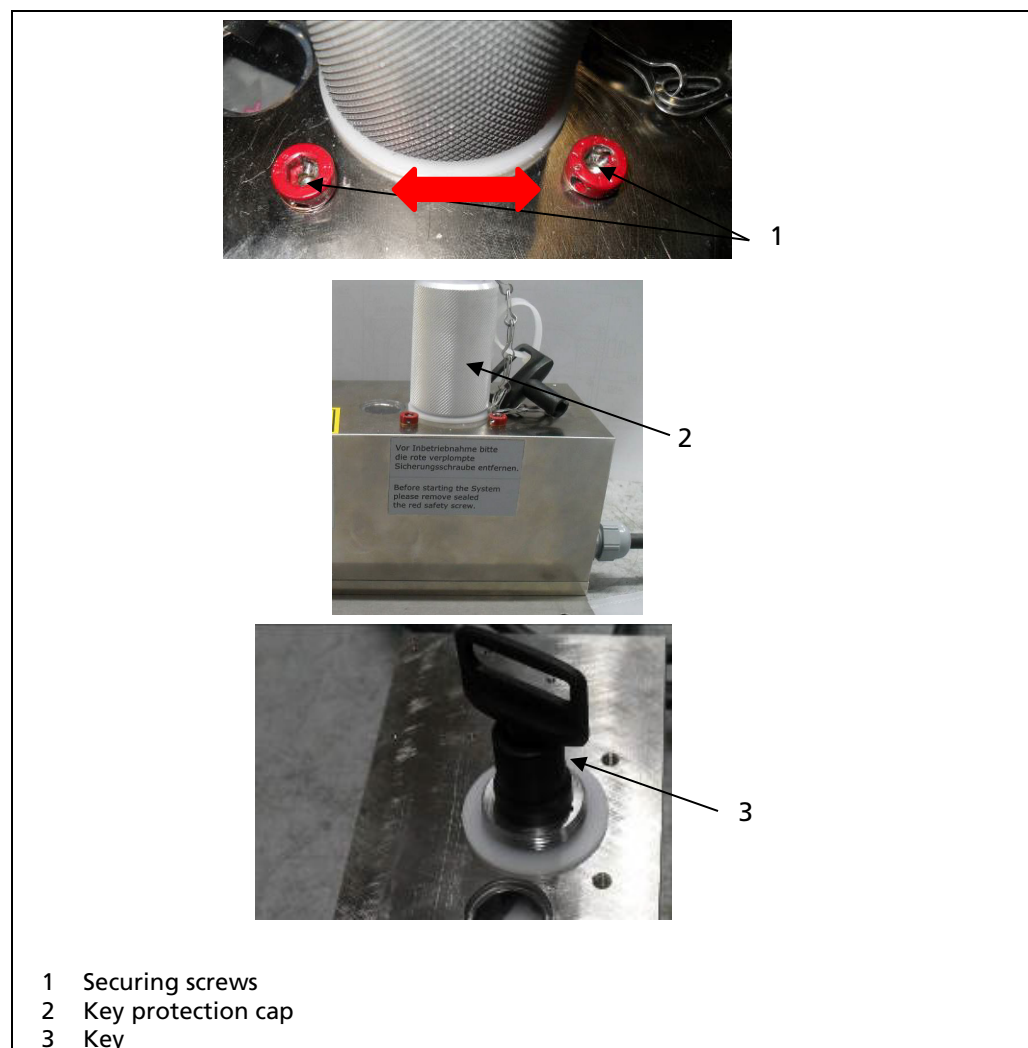

Fig. 9 Shield open (Position **ON**)
2. Unscrew the key protection cap (Fig. 9, pos. 2). Close the locking bolt with the key (Fig. 9, pos. 3) and screw the key protection cap back on.
3. Unscrew the two locking screws of different lengths (Fig. 9, pos. 1) and screw them back in in the exchanged position.